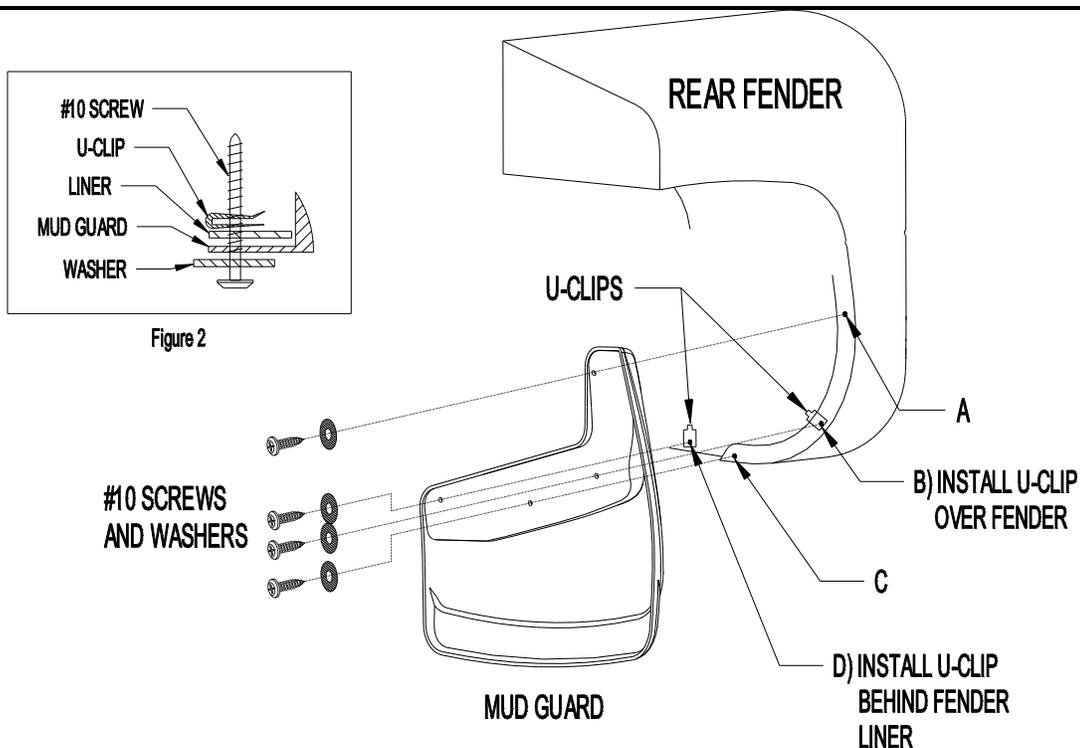

Figure 1
- #10 screw (8)
- Washers (8)
- U-clip (4)
2. Remove existing fasteners from location A and C (Figure 1).
3. Install mud guard to rear fender with #10 screws and washers at locations A and C (Figure 1). Check fit and parallel and adjust accordingly before tightening.